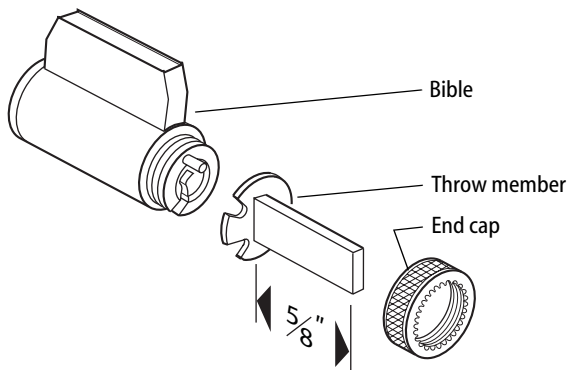

Figure 1 Assembling the throw member to the key-in-knob cylinder
- 3 Assemble the key-in-knob cylinder as shown in Figure 1.
**Note 1:** Make sure that the throw member blade is installed aligned with the cylinder 'bible' as shown in Figure 1. This prevents unauthorized removal of the cylinder.